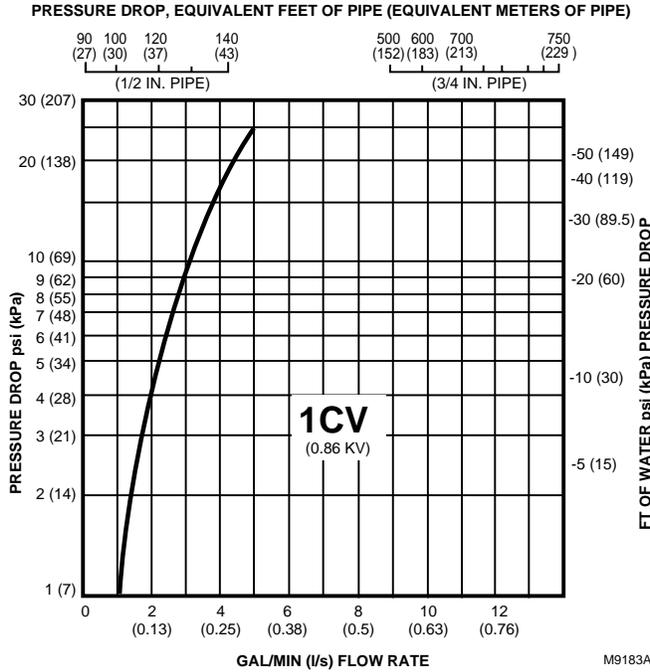

Fig. 3. Flow characteristics of 1 C_V (0.86 kV) flow.
The pressure drop in psi (kPa), equivalent ft (m) of pipe, or feet of water (kPa) can be calculated from Fig. 3 through 8 as follows:
- C Select the graph corresponding to the C_v (kV) rating (Fig. 3 through 8).